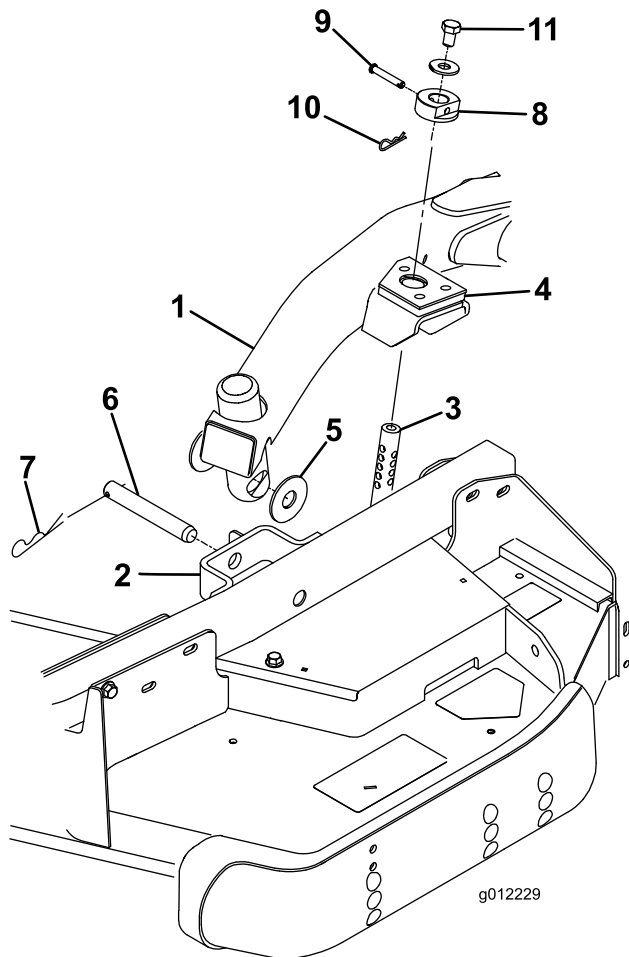

Figure 28
4. Move the lift lever to the Float position. Push a lift arm down until the holes in the lift arm line up with the holes in the castor arm bracket and the height of cut rod can be inserted into the lift arm pads (Figure 28).
9. Install the height of cut collars onto the height of cut rods and secure with the clevis pins and hair pin cottes (Figure 28). Head of clevis pin to be positioned toward the front of the deck.
10. Install a 1/2 x 3/4 inch bolt and a washer to top of each height of cut rod (Figure 28).